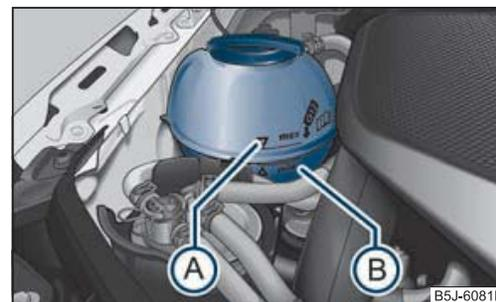

Fig. 143 Engine compartment: Coolant expansion bottle
- Check the level of coolant in the coolant expansion bottle ⇒ fig. 143. The coolant level when the engine is cold must lie between the "MIN" (B) and "MAX" (A) markings. The level may also rise slightly above the "MAX" marking when the engine is warm.
- Place a cloth over the cap of the coolant expansion reservoir ⇒ page 162, fig. 143 and unscrew the cap **carefully** by turning it to the left ⇒ .